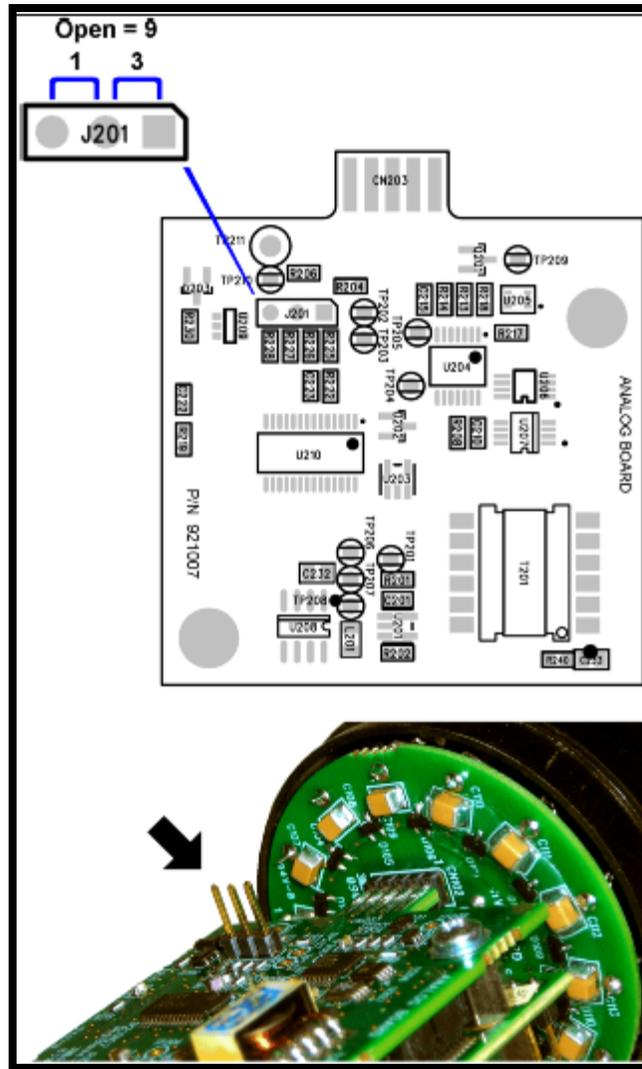

Figure 19. Setting the Coarse Gain Jumper
- Orient the digiBASE-E so the tube socket faces away. In this orientation, when the jumper bridges the left-most and center pins, the coarse gain is 1. When the jumper bridges the right-most and center pins, the coarse gain is 3. The gain is 9 when the jumper is removed (turned at 90° to the connector and placed on only one pin to avoid losing it). These settings are illustrated in Figure 19.